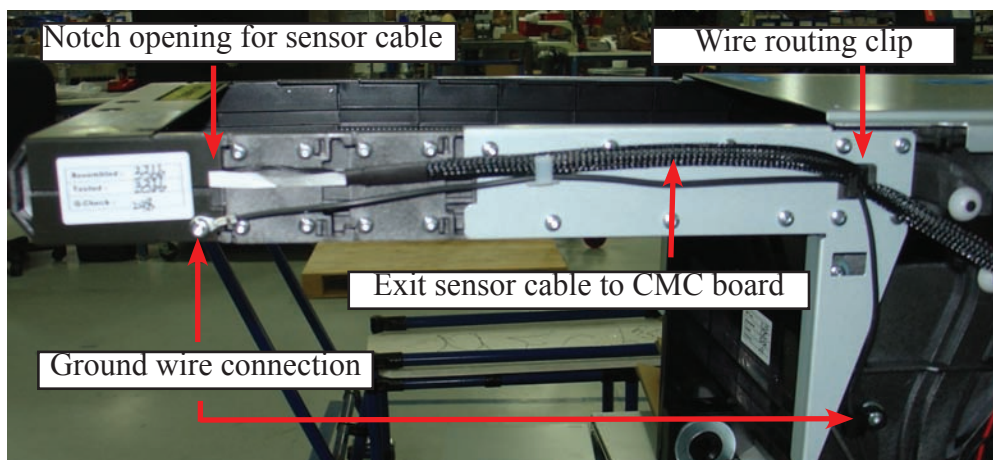

Figure 10
1. Route wiring from end of bundle outlet feed extension through clips alongside arm and chassis, (see figure 10). Round black ground wire routes down arm and to ground post on chassis. Flat black ribbon wire, (exit sensor cable) routes along arm and across outer chassis to attach to CMC board.